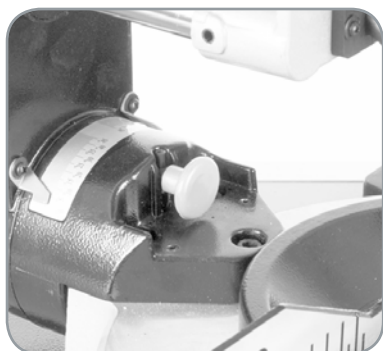

Fig. 34
- Pull out the Right Hand Bevel Access Pin. **(Fig. 34)**